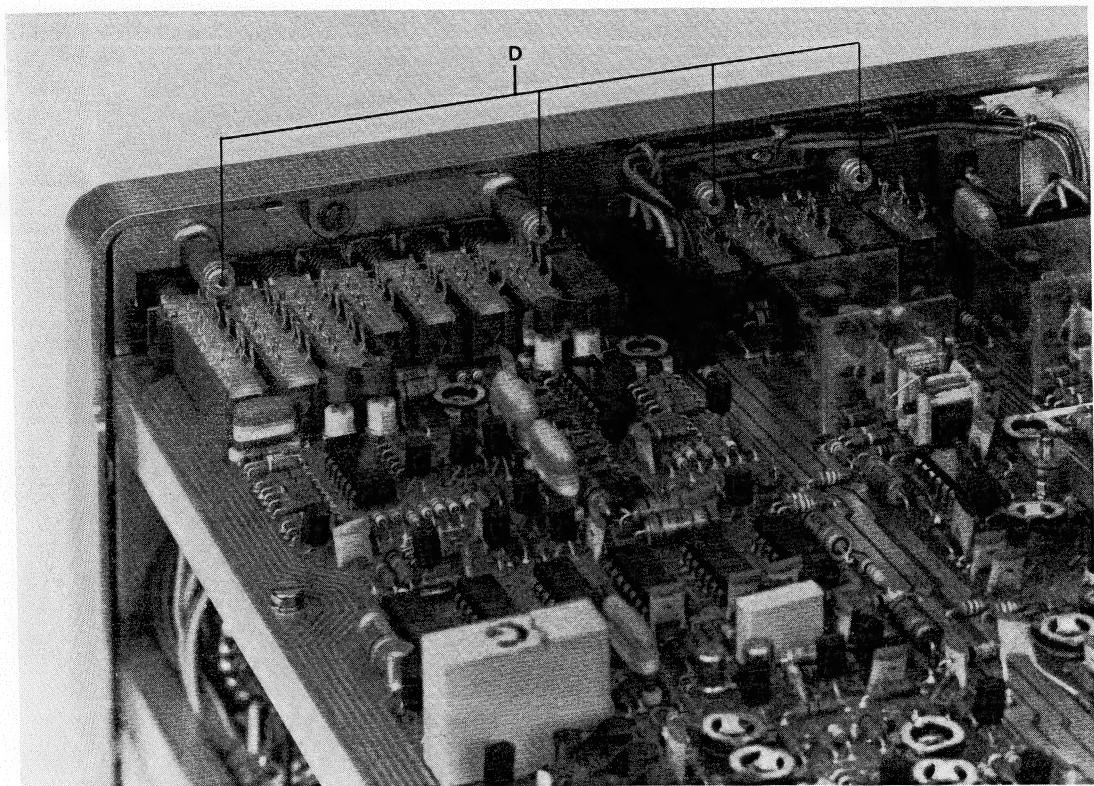

Fig. 3.6 Removing the pushbutton switches (screws D)
- Remove the four hexagon screws D that secure the pushbutton switches to the front panel, (Fig. 3.6)